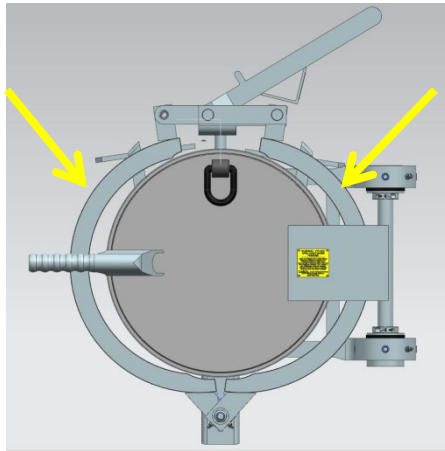

Figure 2: Clamp Ring Segments
C. Open clamp ring segments and verify that the door will open and close, see Figure 2.